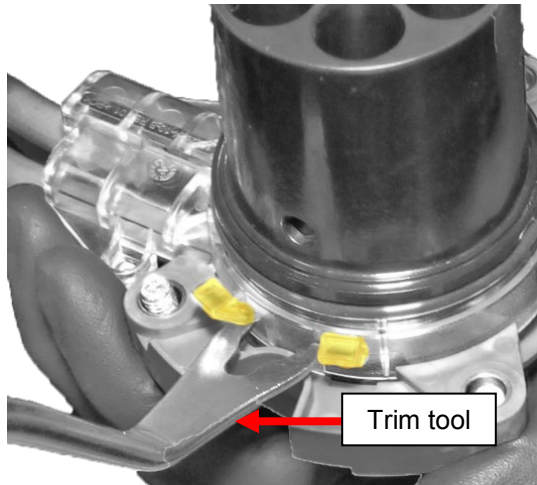
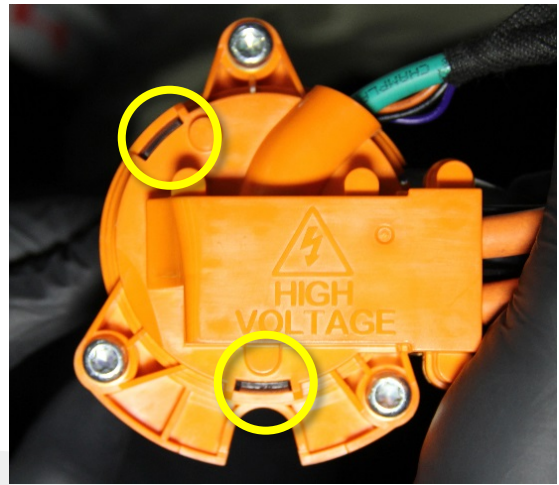

Figure 24 (Tabs highlighted)
Figure 25
- Position a trim tool below the 2 clear tabs (Figure 24), then separate the pin carrier from the pin carrier cap until the 2 rear tabs disengage (Figure 25). Slide the pin carrier away from the pin carrier cap.